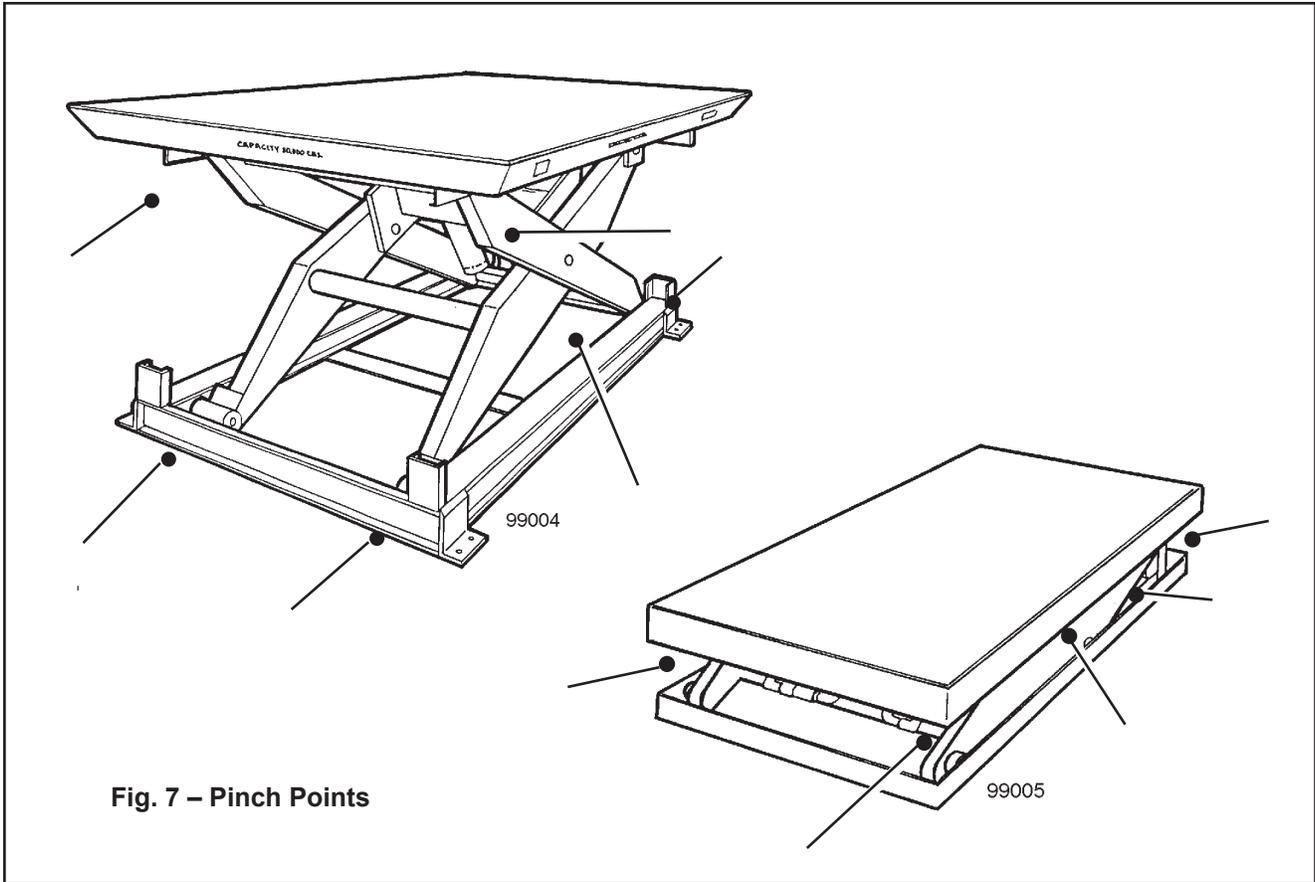

Fig. 7 – Pinch Points
The warning labels on the lift are there for your safety. If you find that the labels are worn or missing, or have been painted over, ask Maintenance to replace the labels before you use the lift. The labels are shown in Figure 7.
- The warning labels on the lift are there for the safety of the operators. See Figure 7.
Be sure all of the warning labels are in position and legible. The labels are shown in Figure 7. **The warning labels are intended to protect your workers.** If the labels are missing, or if they have been painted over, replace them.